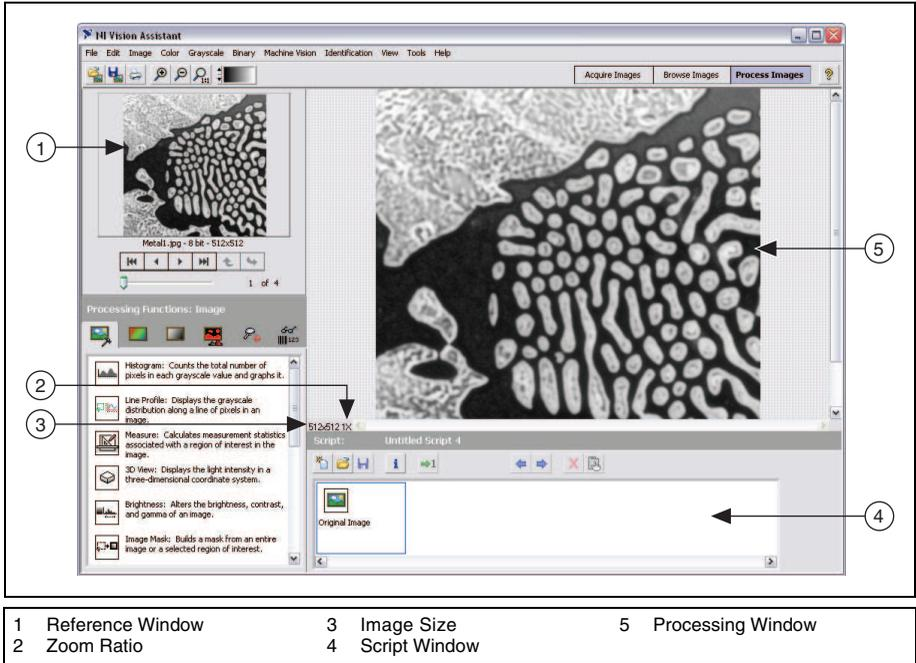

Figure 2-2. Processing an Image
- **Script window**—Records a series of image processing steps and the settings you use for each of those steps. You can run scripts on single images or in a batch to analyze a collection of images. You also can modify and save scripts. Refer to Figure 2-2, *Processing an Image*, for an example of the Script window.
- **Processing Window**—Updates the image as you change parameters. Because this view immediately reflects the changes you have made in the Setup window, you can continue modifying parameters until you get the result you want. Refer to Figure 2-2, *Processing an Image*, to view an image loaded into the Processing window.
- **Reference Window**—Displays the image source as you manipulate it in the Processing window. Refer to Figure 2-2, *Processing an Image*, to view an image in the Reference window.
- Click **Process Images** in the upper right corner of the Vision Assistant window to begin processing images. Vision Assistant loads the image into the Processing window, as shown in Figure 2-2.